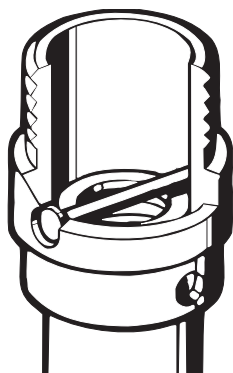

Fig. 2b - Recessed Pin (Rev. B)
B16. Examine the adjustment end of the valve body to locate the pin(22) which holds the poppet(24), spring(25), and washer(26) in place (see Fig. 2b). Insert the slotted end of the Lever Installation Tool into the open end of the valve body, over the pin. Press the tool inward and turn the valve body so that the head (larger end) of the pin is facing straight down. This will allow the pin to easily fall out,